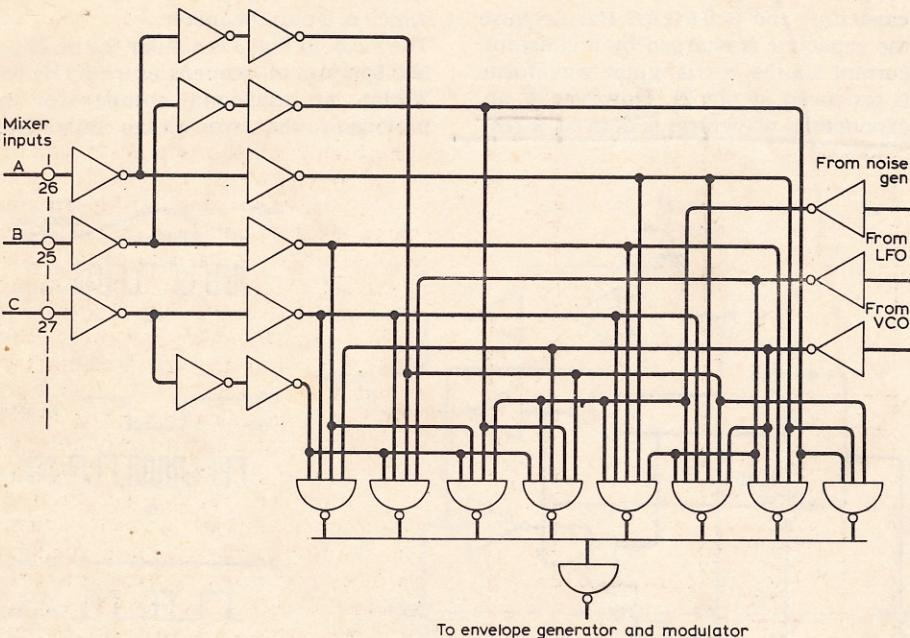

Fig. 5. Mixer circuit. The input signals are multiplexed and not summed.
**The mixer** is a NAND gate multiplexer which selects one or a combination of the inputs and feeds the output to the envelope generator, see Fig. 5. The mixer output is an AND function and therefore does not sum the input signals to produce simultaneous sounds. A truth table for the mixer is shown below.